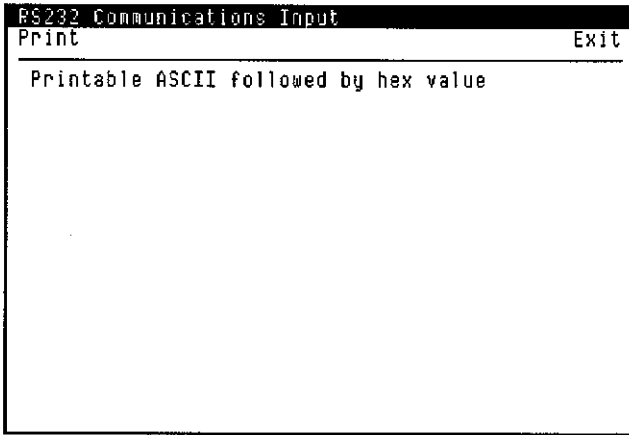

Figure 9-4.
3. With the Main window displayed, click on "DIAGNOSTICS" to display the Diagnostics window. Then click on **<RS232Input>** to display the RS232 Communications Input window, Figure 9-4. The bottom of the window is blank.